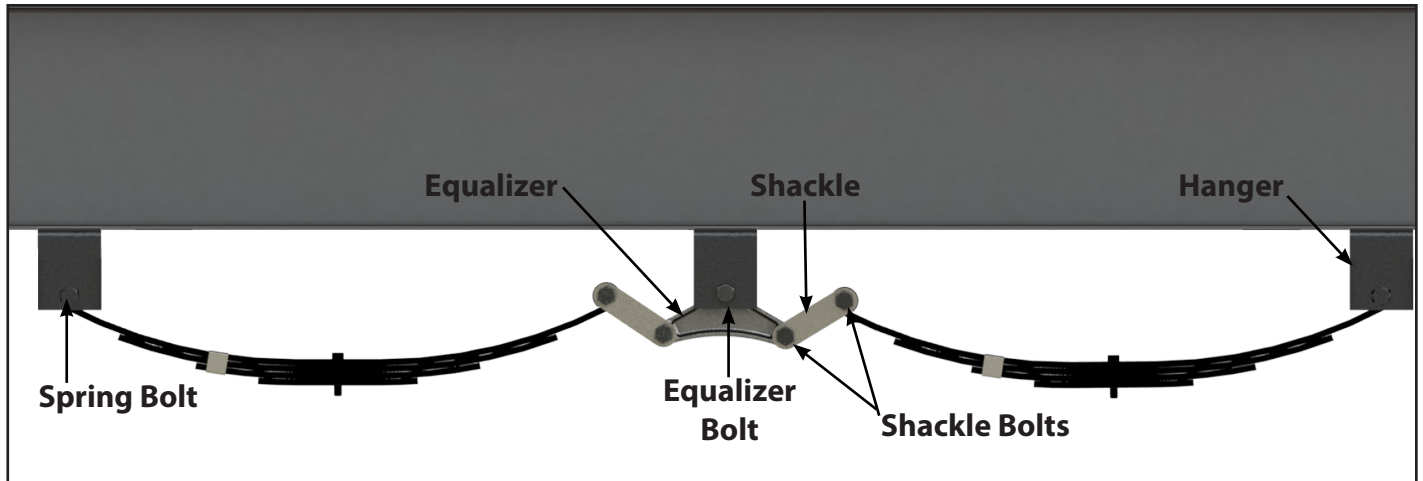

Fig.1
3. Use floor jacks to support the axles. Remove the following as needed: leaf spring bolts (2), equalizer bolt (1) and shackle bolts (4) (Fig. 1). Lower the axles about 2".